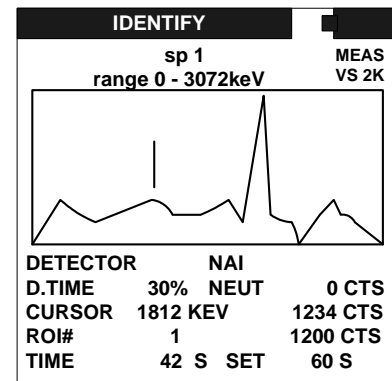

Fig. 10
- The GR-135 immediately begins to acquire a spectrum with the display appearing as shown in Figure 10. Note the system **DEAD-TIME** – for best results this should be between **10-25%**
As the sample progresses the display is updated at a 1/sec rate as shown in Fig. 10 until the preset sample time is reached. For full details of this display see section 7.4 below.